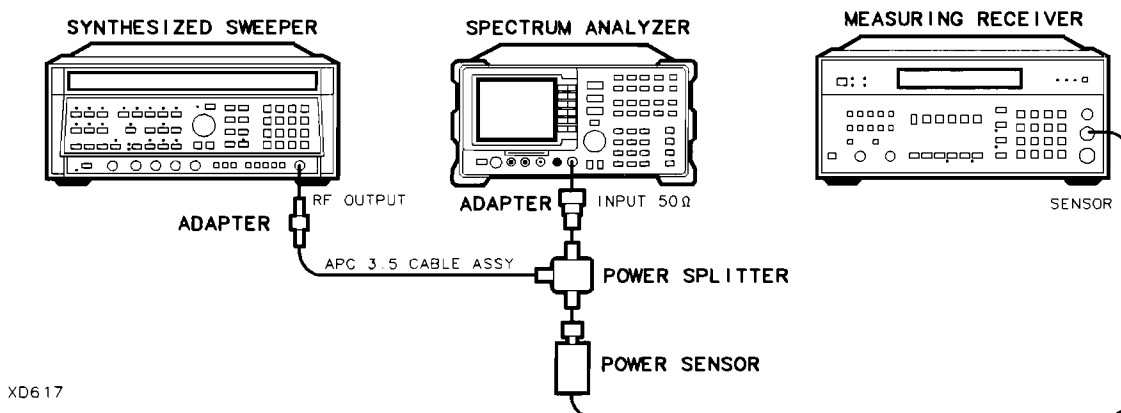

Figure 2-34. Frequency Response Test Setup, ≥ 50 MHz
2. Connect the equipment as shown in Figure 2-34.